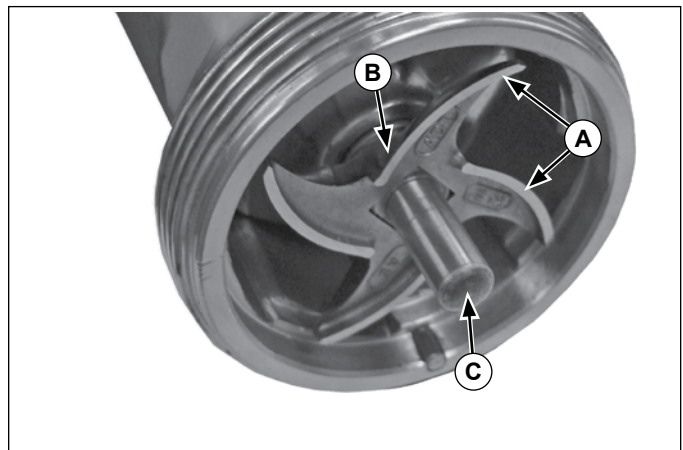

Figure 4. Knife Blade and Blade Shaft
4. Carefully remove the knife blade (B) from the blade shaft (C). See Figure 4.
6. Slide the knife blade (B) onto the blade shaft (C) so that it seats completely over the square (D). See Figure 4.